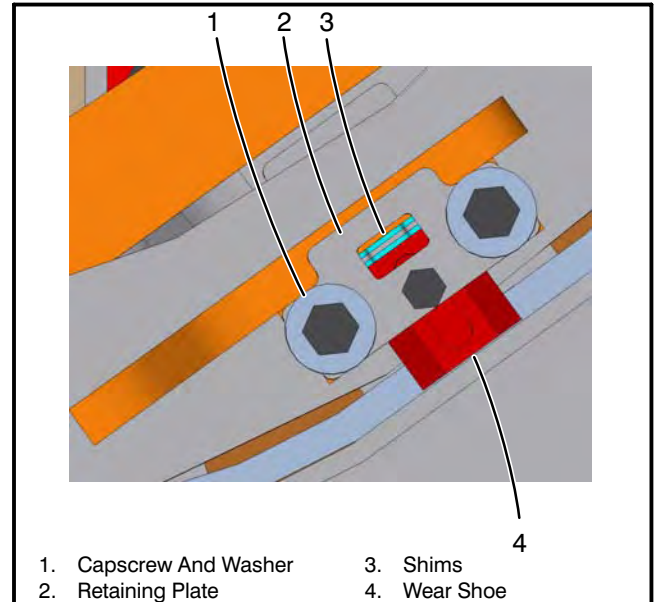

Figure 3-10
- c. Rear Bottom Side Wear Shoes (Refer to Figure 3-6 and Figure 3-10)